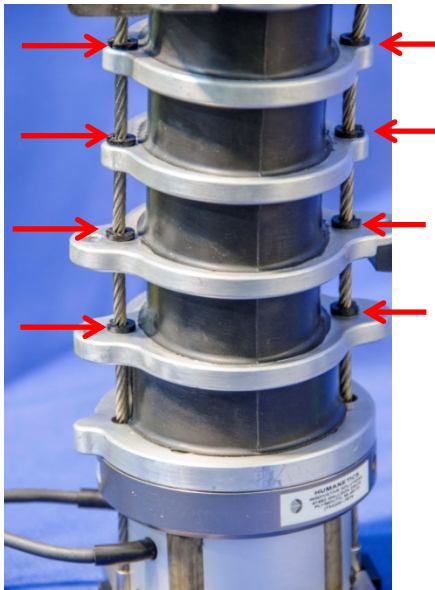

Figure 4-21. Install cable guides
- 4.2.2.11 Assemble the Cable Guides (472-2105) at the eight locations shown in Figure 4-21. Slits on one side of guides allow them to be stretched open and pressed onto the cable at each location. Once each guide is on the cable, press it into the hole in each plate.